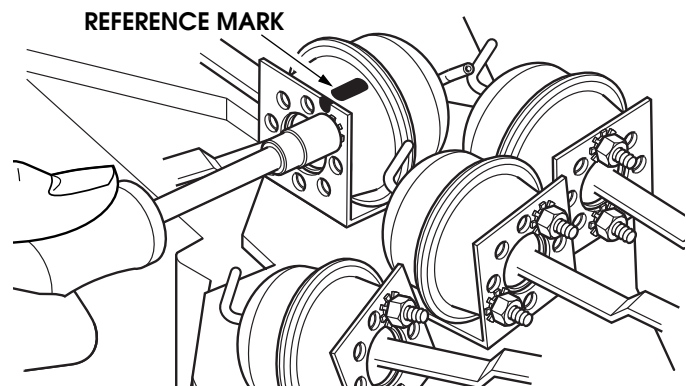

Figure 11-90: Vacuum Door Motor Replacement
4. Note position of mounting studs on the motor to be replaced. Mark holes that studs pass through (Figure 11-90).
8. Remove two mounting nuts and vacuum motor (Figure 11-90).